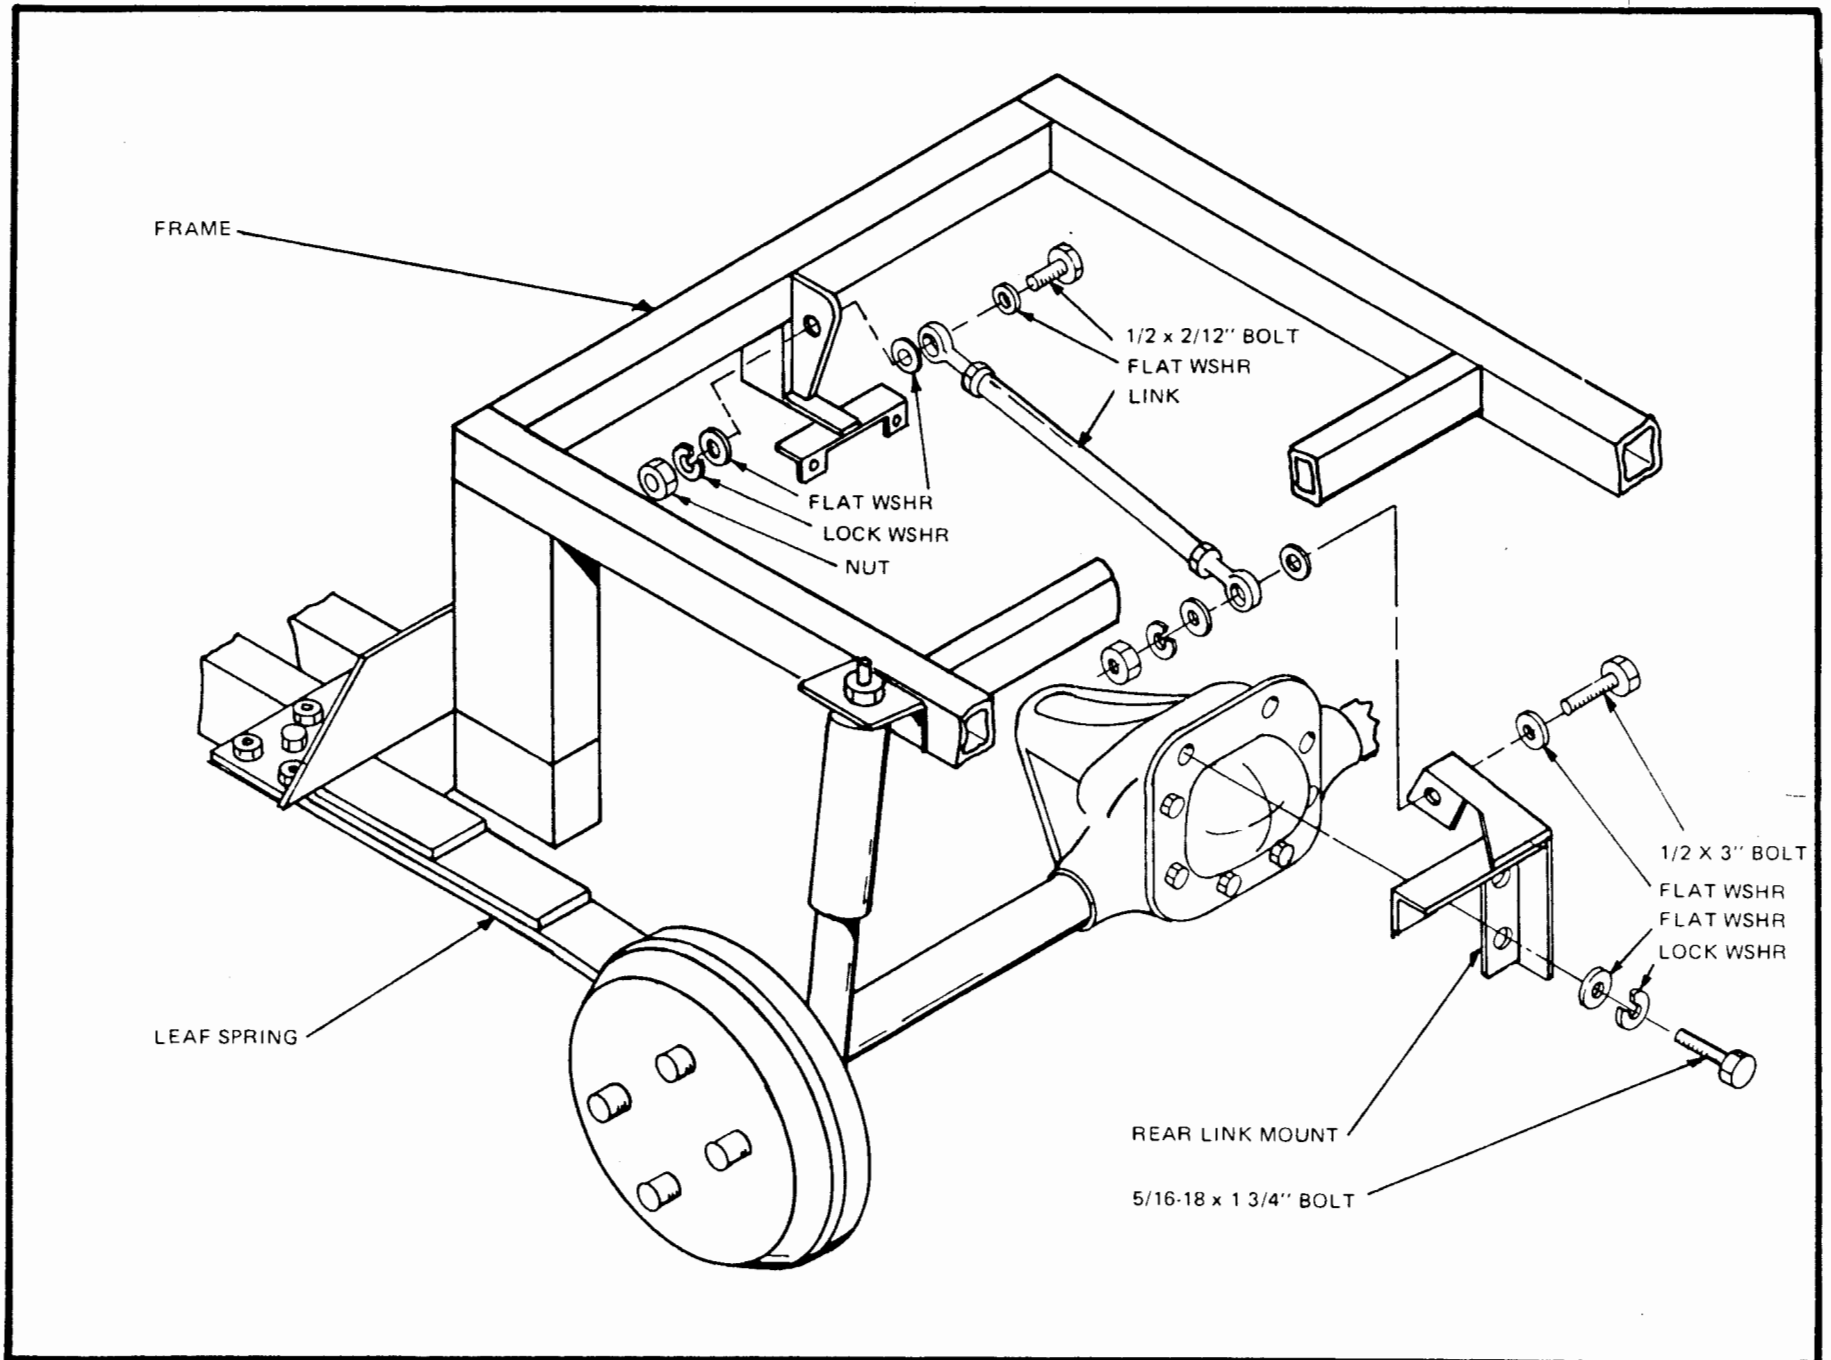

Figure 8
- Adjust link assembly until the universal flange on the differential is straight up and down. (Figure 8)